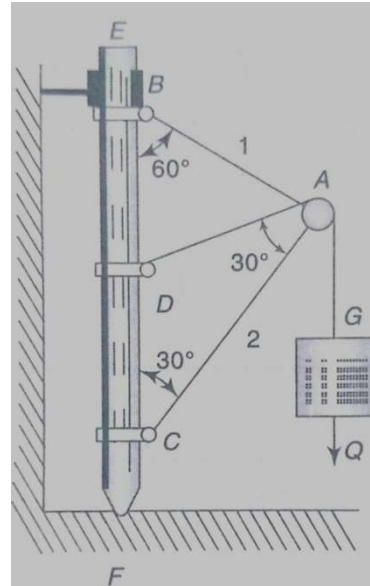

Figure 1.11
17. A pulley A is supported by two bars AB and AC which are hinged at points B and C to a vertical mast EF (Figure 1.11). Over the pulley hangs a flexible cable DG which is fastened to the mast at D and carries at the other end G a load $Q = 20 \text{ kN}$. Neglecting friction in the pulley, determine the forces produced in the bars AB and AC . The angles between the various members are shown in the figure.